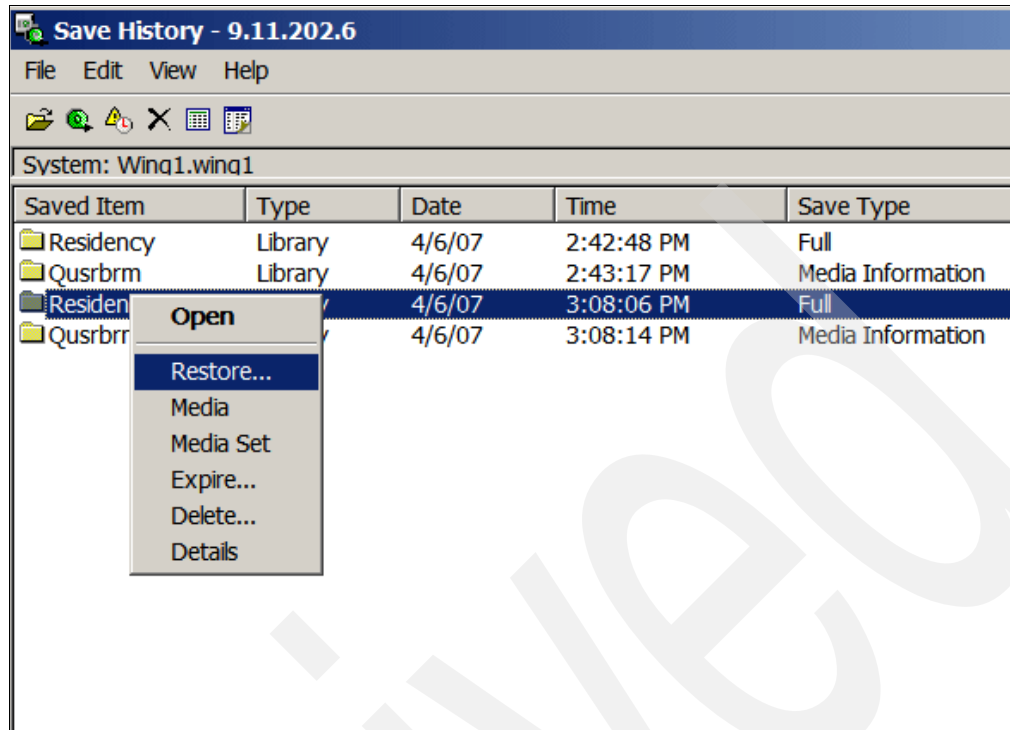

Figure 6-38 Select object to restore
4. Next, BRMS shows you the saved objects within specifications you made. Right-click the object you want to restore, and select **Restore** from pull-down menu, as shown in Figure 6-38.